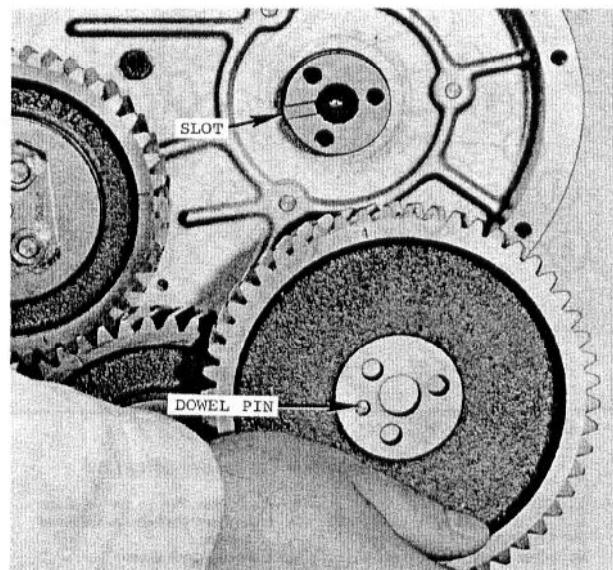

Fig. 21 — Removing or Installing Injection Pump Gear
2. Remove capscrews and washers and remove the injection pump drive gear as shown in Fig. 21.
4. Install injection pump gear, aligning dowel pin in gear with slot in injection pump as shown in Fig. 21.